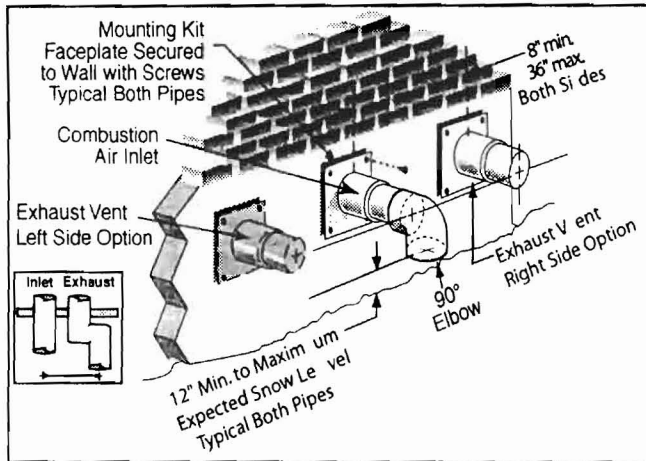
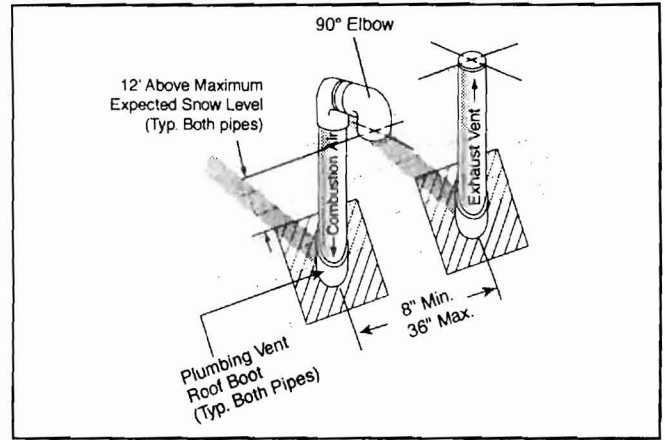

Figure 6. Exhaust and Combustion Air Pipe Clearances
Figure 9. Vertical Vent Termination
Vent and combustion air intake terminations shall be installed as shown in Figures 6 & 7 on page 13 and in accordance with these instructions:
- When the vent pipe must exit an exterior wall close to the grade or expected snow level where it is not possible to obtain clearances shown in Figure 6, a riser may be provided as shown in Figure 9 on page 13. Insulation is required to prevent freezing of this section of pipe. See Table 1 on page 13 for vent freezing protection.
Termination spacing requirements from the roof and from each other are shown in Figure 9 on page 13. The roof penetration must be properly flashed and waterproofed with a plumbing roof boot or equivalent flashing. Vent and combustion air piping may be installed in an existing chimney which is not in use provided that:
- The termination clearances shown in Figure 9 are maintained.